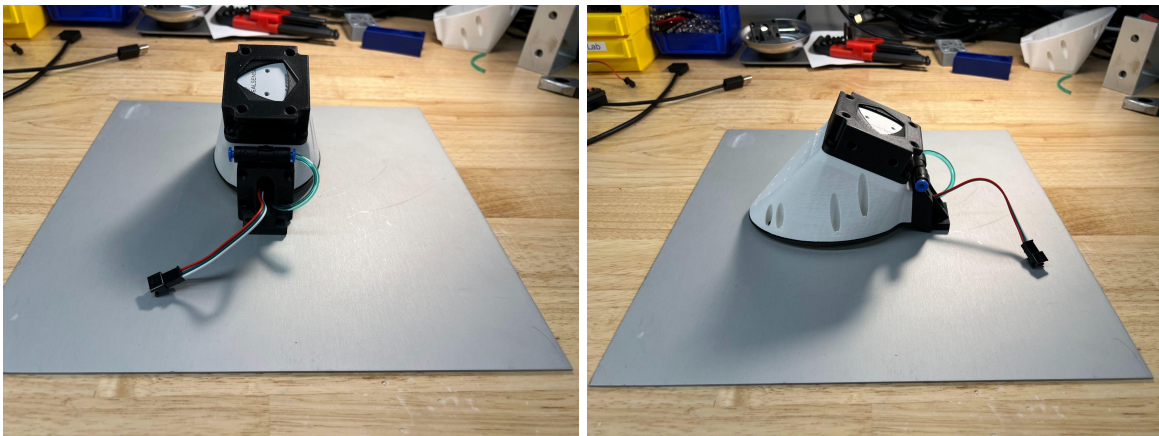

Figure 81: The push to connect fitting inserted into the tube fitting clip
15. Click the push-to-connect fitting into the clip on the *Gripper Finger Mount* (Fig. 81).